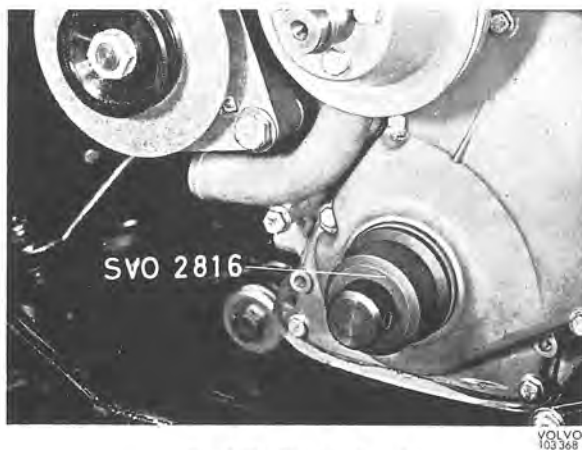

Fig. 2-37. Fitting oil seal
4. Remove the oil seal. Lubricate the sealing lip on the new seal and fit the seal with drift 2816, see Fig. 2-37.